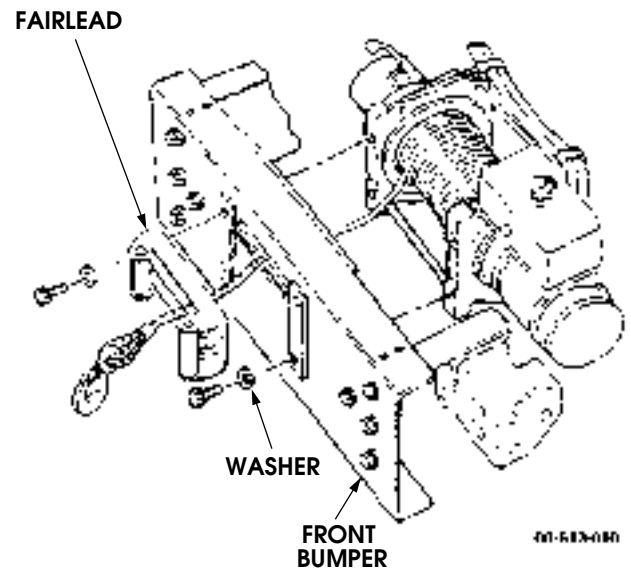

Figure 13-26: Winch Fairlead
- Remove washers, bolts, and the roller fairlead from the front bumper (Figure 13-26).
- Place the winch cable and hook assembly through the roller fairlead and install the fairlead on the front bumper with washers and bolts. Tighten bolts to 60 lb-ft (81 N•m) (Figure 13-26).